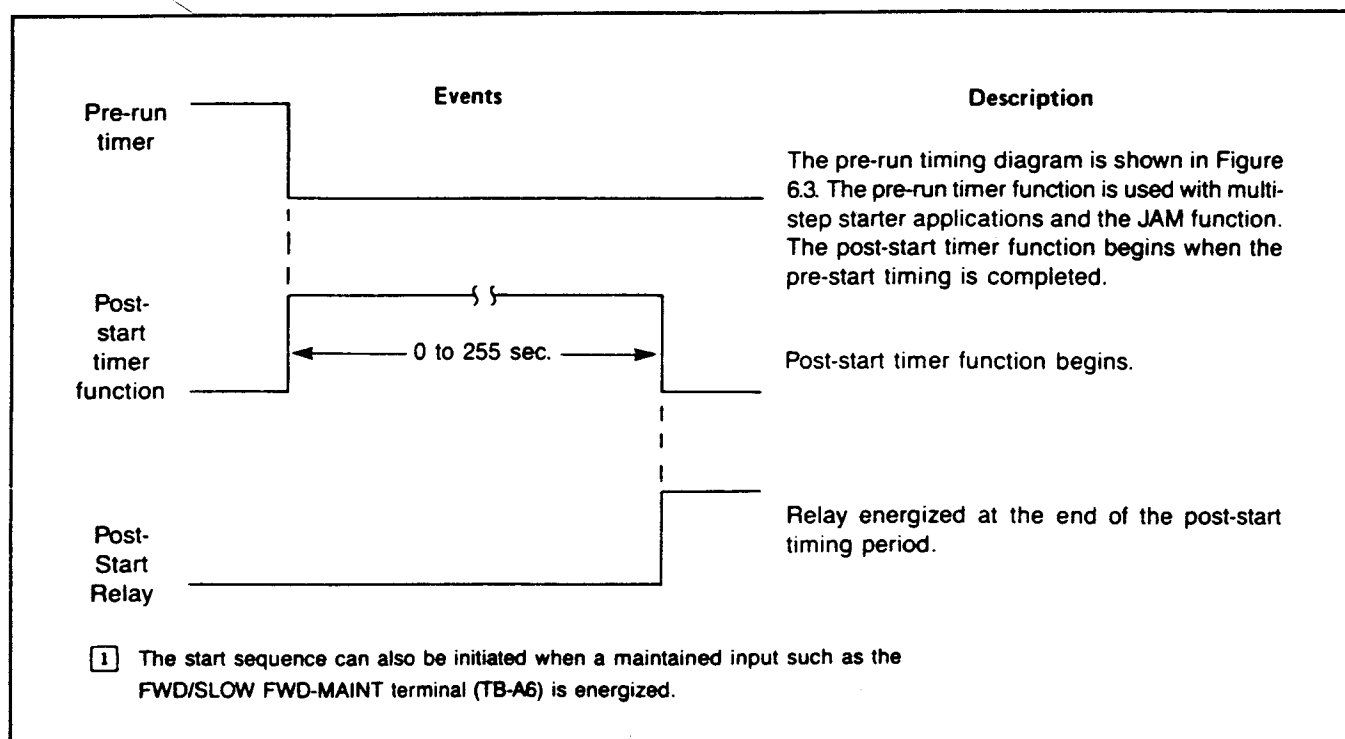

Figure 6.7 — Post-start Events Diagram
6.21 Post-start Timer — The post-start timing setpoint function, initiated after the end of the pre-run sequence, can be used to enable auxiliary control functions after the sequence begins. (See Figure 6.7.) For example, a load may be increased